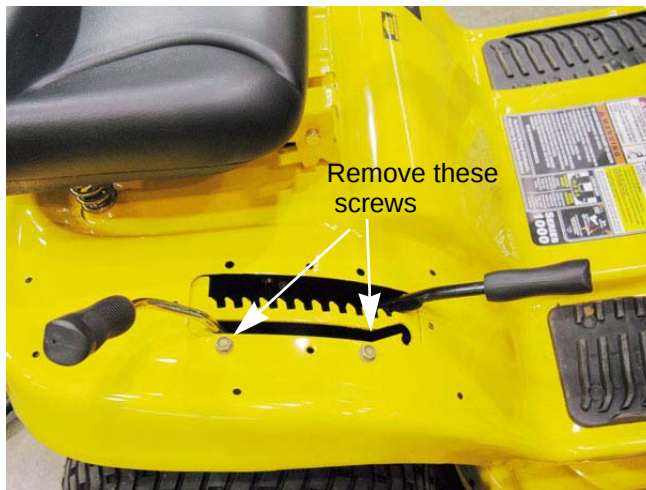

Figure 8.38
3. Remove the two screws that secure the deck lift arm indexing plate using a 1/2" wrench. See Figure 8.38.